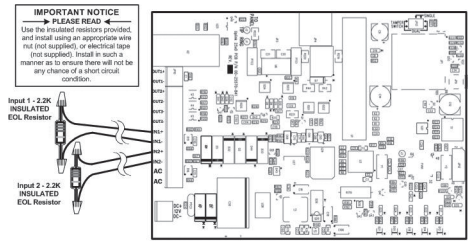

FIGURE 5:
17. The 2550-CF has two EOLR supervised inputs that report to the central station when activated. These inputs are disabled in the default state and must be enabled via the Dealer Web Site. Two insulated EOL resistors are enclosed and only those insulated EOL resistors have been tested by UL. Additionally, the resistor(s) must be fastened securely to the appropriate input, with no means to open circuit, short to an adjacent circuit or cause a risk of electric shock. See Figure 5 for further details.